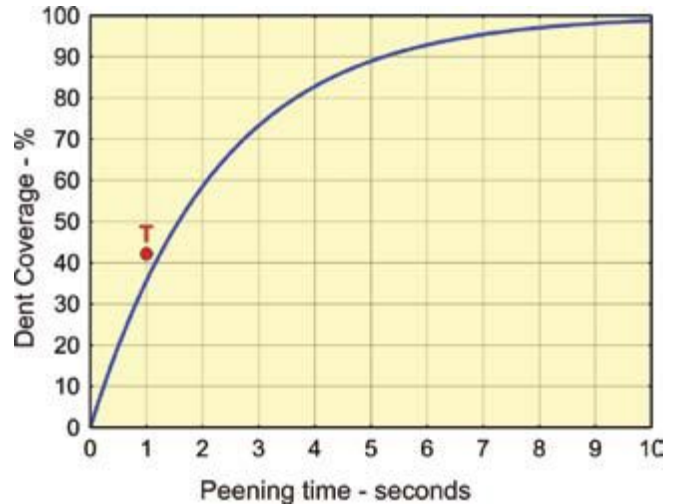

Fig.3. Theoretical average dent coverage curve for dents of 1 mm radius generated at a rate of 14 per 100 mm² per second.
As an example, consider 14 dents per second (on average) being produced within a square 10 mm by 10 mm, with each circular dent having a radius of 1 mm. Therefore **r**² is 1 mm², **R** is 0.14 per mm² per second and **t** is in seconds. The units in equation (1) cancel each other out. The product, **.r**²**.R**, is the “coverage rate factor.” For this example, **.r**²**.R** is 0.44. Fig.3 uses 0.44 as this factor. Therefore, after 1 second, an area of 100 mm² will have received, on average, 14 dents. Equation (1) then predicts an average coverage of 36%.
The theoretical curve, shown as fig.3, has exactly the same shape as the example given in SAE J2277. It is important to note that these curves are only accurate for average dent coverage. This point is illustrated in fig.4 which comprises 14 identical dents of precisely 1 mm radius – equivalent to peening for 1 second. These dents have been placed randomly within a square 10 mm by 10 mm – their centers having been chosen using computer-generated random numbers. For the example shown in fig.4 the measured dent coverage (within the yellowed square) is 42%, shown as “T” on the graph, (measured using several techniques which all gave the same value). Equation (1), however, predicted that the average dent coverage would be 36%. The difference between the measured 42% and the predicted 36% is due to statistical variation. The value of 42% has been included in fig.3 to emphasize statistical deviation. We should, therefore, note that there is a difference
Coverage curves of the type shown in fig.3 (and in SAE J2277) are very useful for predicting and controlling average dent coverage. Optimization of dent coverage requires, however, that we consider both the coverage achieved and the amount of peening needed to achieve that coverage.
from 1 to 9, *r* equals 1 mm and *R* is equal to 0.14 dent per mm² per second (as for fig. 3).